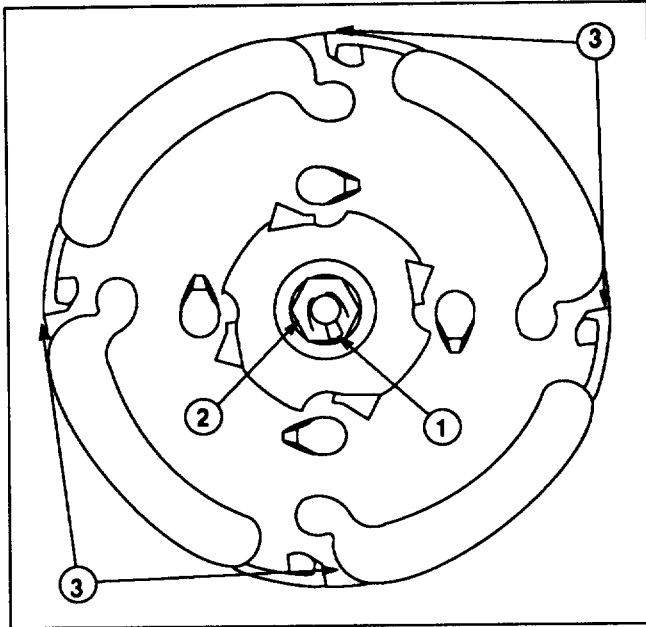

Figure 16
CLEANING CUTTING HEAD (Fig. 16)
3. Remove the nut by turning *clockwise* (as viewed from the bottom of the spool) (Fig. 16).
5. Inspect the spool for damage. Pay particular attention to the area where the line exits the spool. Burrs in this area can lead to premature line breakage (Fig. 16). Clean out any debris